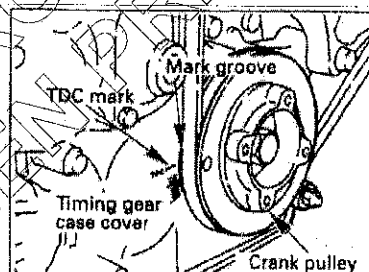

Fig 26 Valve clearance adjustment
(1) Turn the crankshaft clockwise so that the mark groove on the crank pulley is aligned with the TDC mark (cast out) on the timing gear case cover (Fig 26).